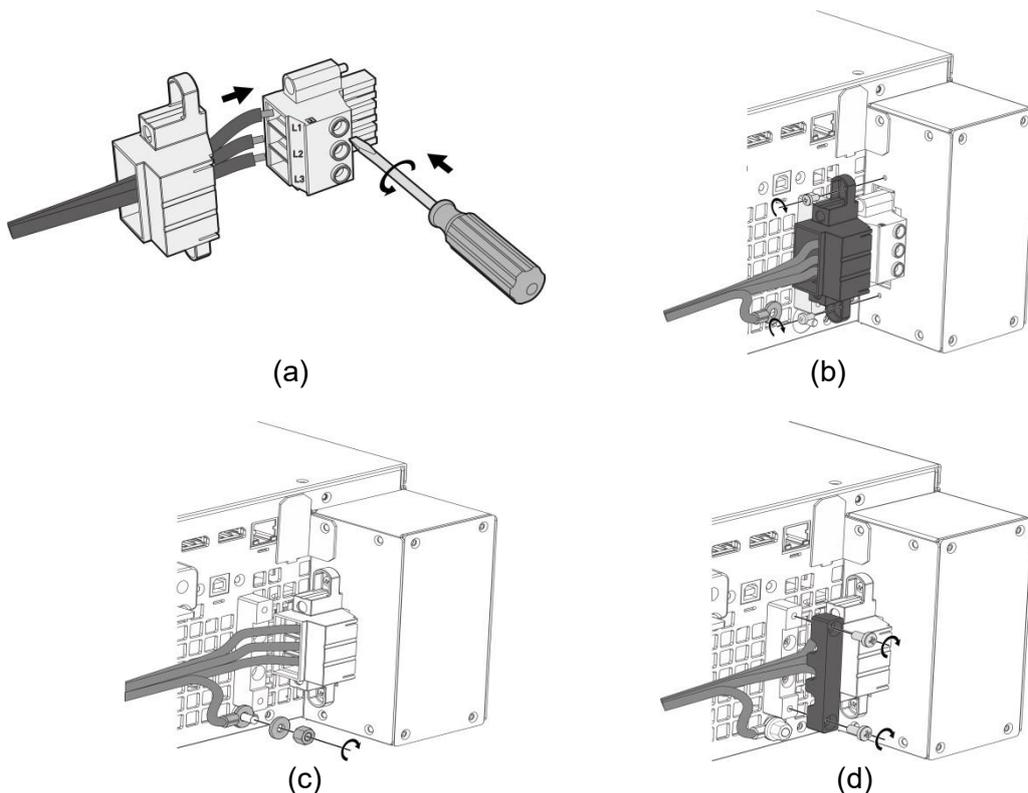

Figure 2-1
- (1) The input power connector is located at the right of the rear panel.
- (2) The power line must be rated at least 105°C.
- (3) The power cable width must be 8AWG at least.
- (4) Assembly ▶ see Figure 2-1(a)~(d) and execute the following steps: